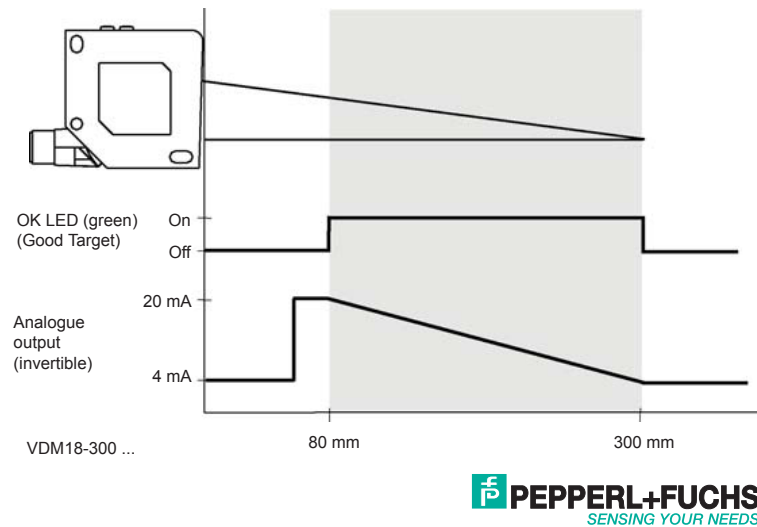

Figure 5: Operating range (Factory setting)
1. Check operating range of the sensor (see Fig. 5). Make sure that lower position of the books stack (0 books) is inside the range. Use stand if necessary.